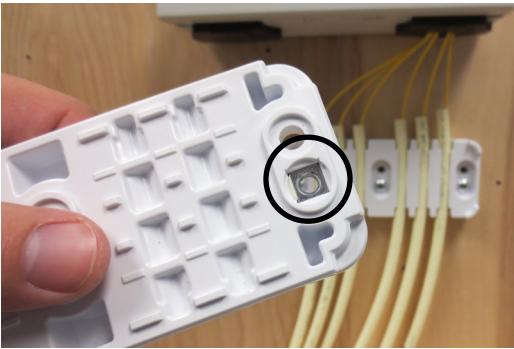

Fig. 7
- The next manifold plate should be aligned with the nut inserts on the **bottom** (Fig. 7 black circle).